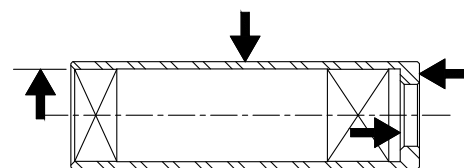

Figure 32
- ÿ When inspecting the sleeve, review the outer and inner tracks, replace if you have grooves or pits (see Figure 32).